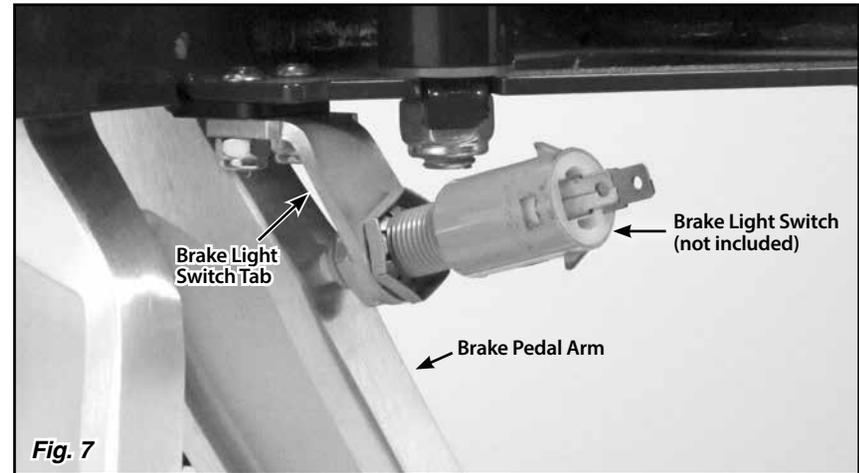

Fig. 7
- Step 6:** Install the brake light switch tab that came with the Lokar Brake and Clutch Pedal Arms using the original Kugel hardware. Install the brake light switch (not included) into the brake light switch tab. **Fig. 7** Turn the brake light switch in or out as required to adjust the switch. The brake light should turn on when the Brake Pedal Arm is depressed approximately 1/2". Make sure the brake lights are not on with the Brake Pedal Arm in the at rest position.